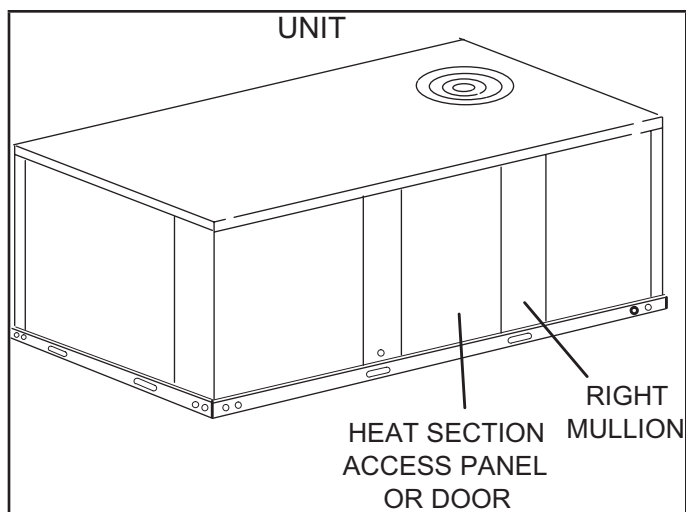

FIGURE 1
- 2 - Open or remove the unit heat access panel. See FIGURE 1. If the panel is hinged, remove the right mullion.